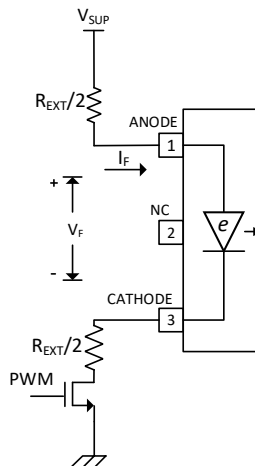
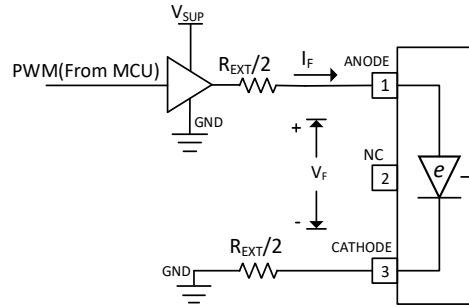
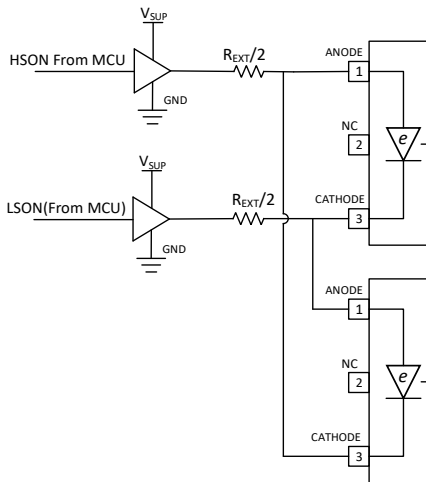

Figure 8.2 NSI68515 typical application circuit with NMOS driving input stage
Figure 8.3 NSI68515 typical application circuit with one buffer driving input stage
Figure 8.4 Interlock Protection using NSI68515
NSI68515 requires  $7\text{mA}$  to  $16\text{mA}$  bias current that flows into the e-diode for normal operation. The PWM from MCU is not suitable to provide such current directly and external circuit is needed. In Figure 8.2, one NMOS is used with split input resistors. Another input drive method is using one buffer, as shown in Figure 8.3.
The recommended forward current range for NSI68515 is 7mA to 16mA. The value of input resistor, buffer supply voltage and buffer internal resistance influence the forward current, as shown in Equation (1). In Figure 8.2,  $R_{Buffer}$  is the on-resistance of the external NMOS. In Figure 8.3,  $R_{Buffer}$  is the buffer output impedance in output “High” state. In Figure 8.4,  $R_{Buffer}$  is the summary of buffer output impedance in “High” and “Low” state.
The parameter variation needs to be taken into consideration when selecting input resistor. Take Figure 8.2 as an example, Table 8.1 lists assumed parameter variation in this example.